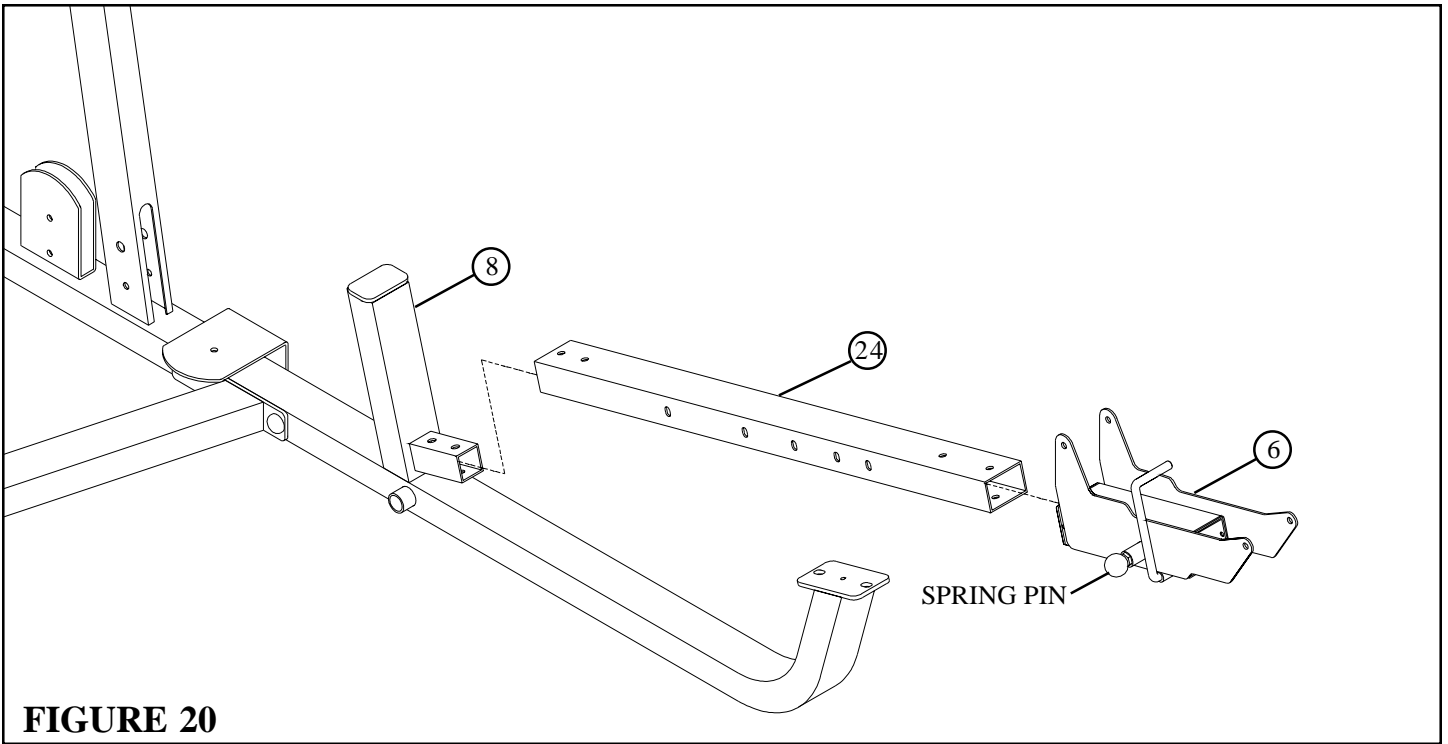

FIGURE 20
- Pull back on the SPRING PIN and slide the MULTI PRESS SEAT ADJUST (6) over the MULTI PRESS SLIDE TUBE (24) as shown in FIGURE 20.
- Slide the end of the MULTI PRESS SLIDE TUBE (24) over the MULTI PRESS FRAME (8) as shown in FIGURE 20.